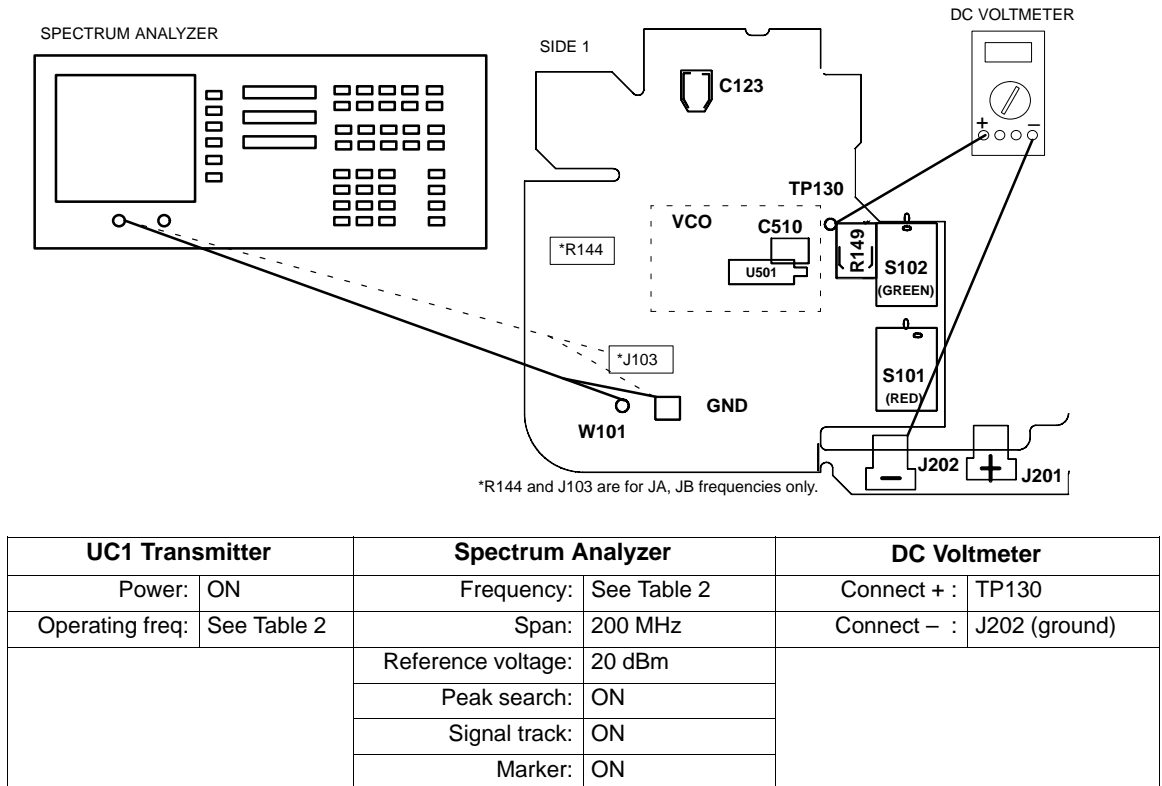

Figure 6. UC1 Power Output Measurement Test Set-Up
7. Use the test set-up and equipment settings in Figure 6 for the next test, the power output measurement.
1. Remove the BNC cable end from the frequency counter and connect it to the 50 Ω input of the spectrum analyzer. Use the equipment settings shown in Figure 6.